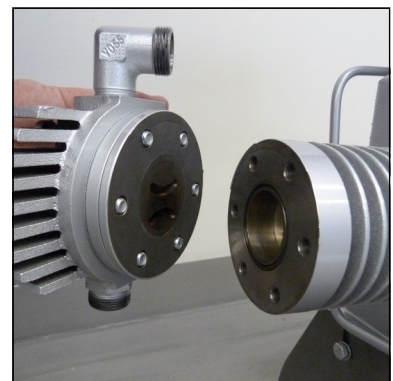

Fig. 6 - Remove valve head
- Remove complete valve head 1st stage (Fig. 6).